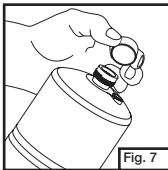

Fig. 7
- Remove protective cap from top of propane cylinder. Save cap for use in storing. (Fig. 7)